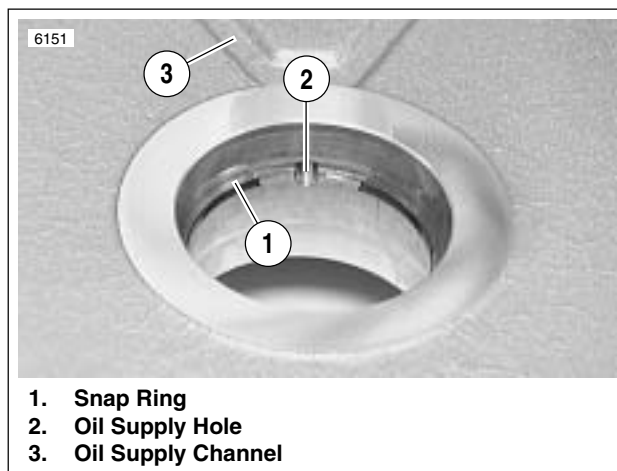

Figure 3-91. Snap Ring
- f. See Figure 3-91. Verify that the gap in the snap ring is centered below the oil hole at the top of the ring groove. Move snap ring if not properly centered.